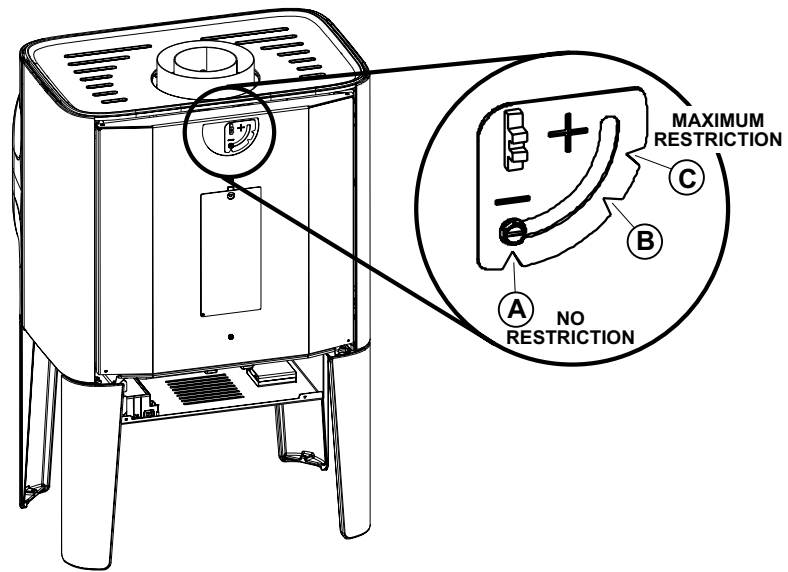
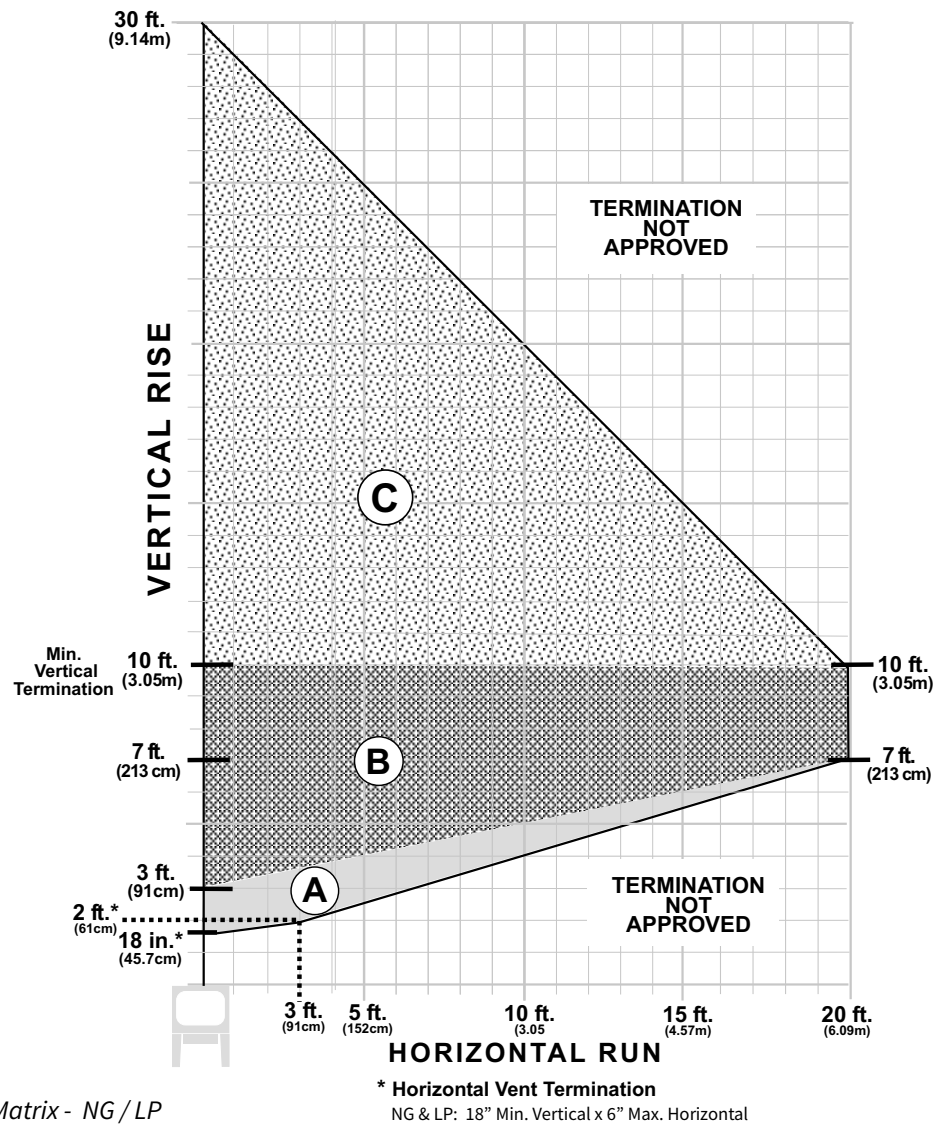

Figure 6.2.
Figure 6.3. Vent Termination Zone Matrix - NG / LP
The Exhaust Restrictor plate is located within the firebox exhaust outlet. It is adjusted by rotating the dial on the back of the stove within a range beginning at the factory-set, fully open position (no restriction) to a fully restricted position. See Fig. 6.2. The Minus (-) and Plus (+) signs on the dial relate to degrees of restriction, from zero to approximately 70%. The three, lettered positions correlate to the termination zones (A,B,C) diagramed in figure 6.3. Use the diagram to determine the degree of restriction and shutter setting that correlates to your vent configuration.
- The termination should fall within the shaded areas of the grids depicted in the Vent Matrix, fig. 6.3, page 10.
- Any horizontal termination must fall within the shaded portion of the vent window matrix shown in fig. 6.3.
A 14" (356mm) or 36" (914mm) snorkel termination is approved when installed in conformance with the vent specifications published in this manual. See figs. 6.3 and 6.6.